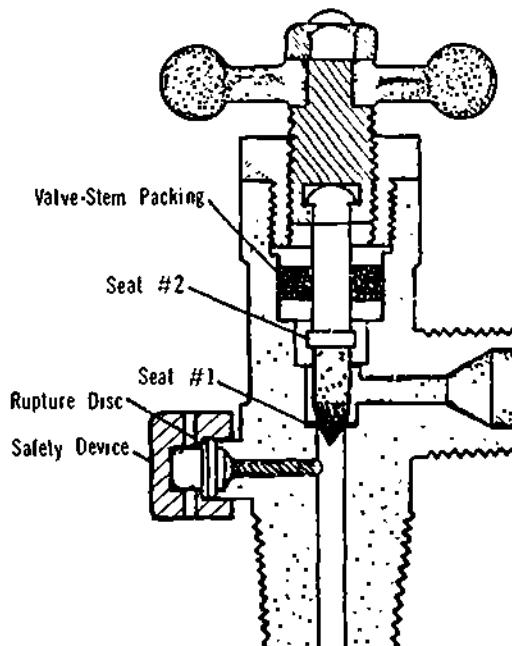

Figure 18-2. Cylinder Valve
d) The cylinder valve shown in Figure 18-2 is designed to operate at high pressures. The double-seat construction prevents leakage of oxygen around the stem when the valve is fully open. The safety device in the valve consists of a pressure or rupture disc that will burst and release the oxygen before the cylinder can be ruptured by excessive heat.